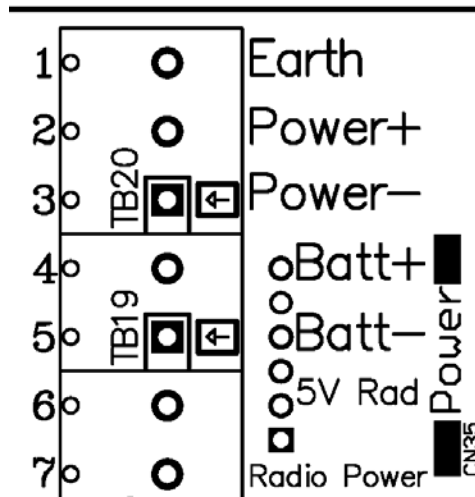

Figure 2.13—Battery connections on the main circuit board
- b. Connect the factory-installed black wire extending from the Batt- terminal (terminal 5) to the negative (-) terminal of the battery (Figure 2.13).